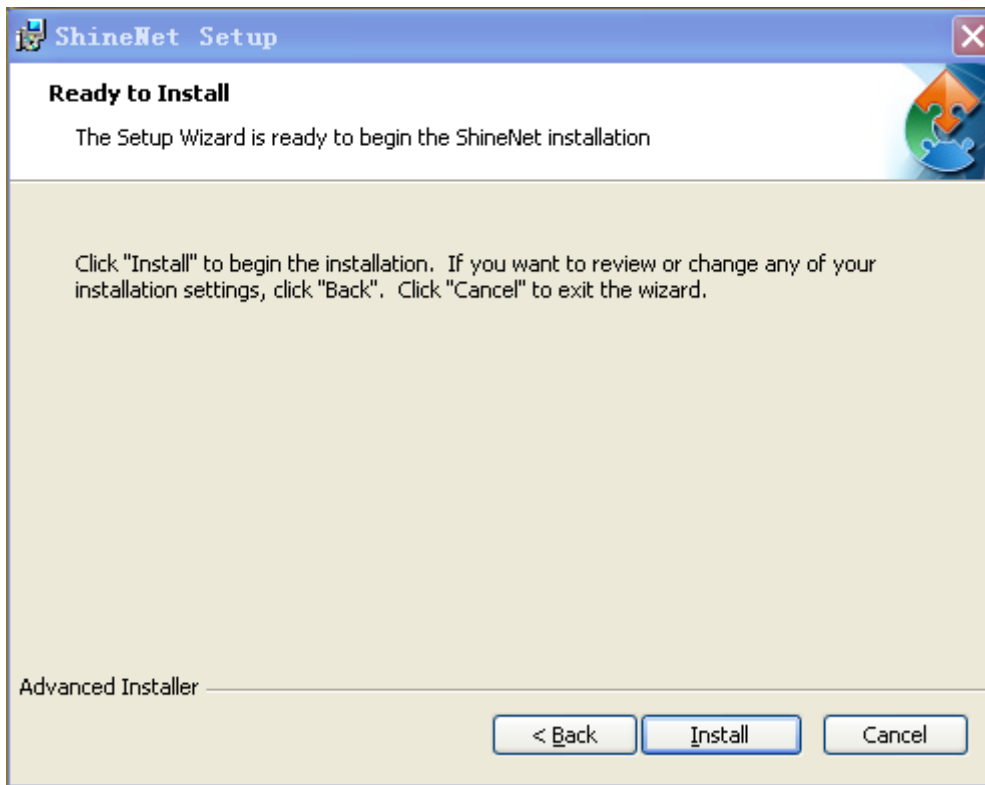

Figure 3-2-3
4. Click next, then shown as following figure 3-2-3.